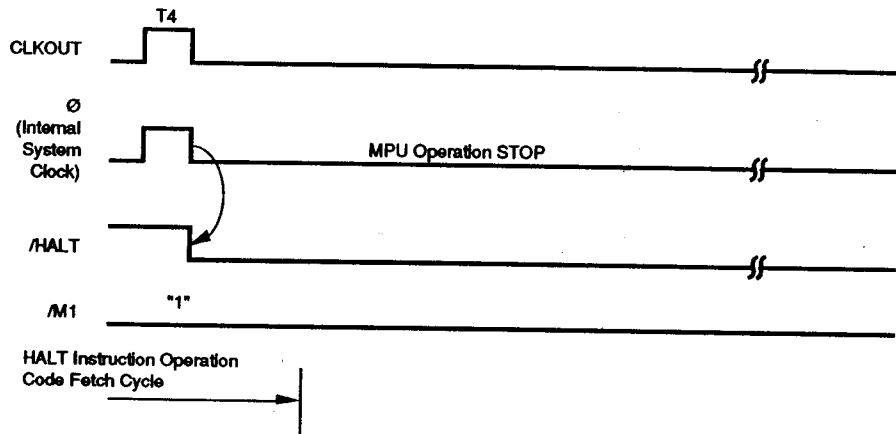

**Figure 31. Timing of RUN Mode**
**RUN Mode (HALTM = 11).** Shown in Figure 31 is the basic timing when the halt instruction is executed in RUN Mode.